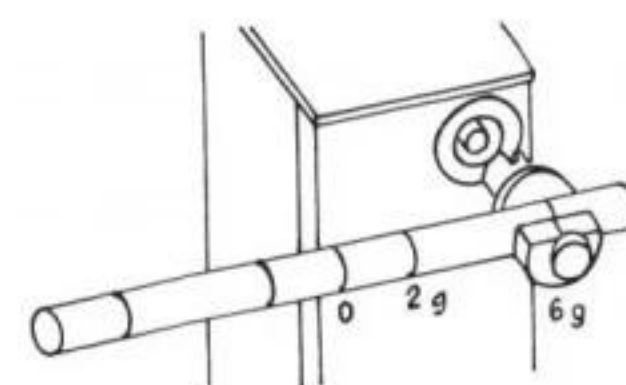

Fig. 14
**Verification:** the confirmation that the tonometer measures the force exercised by the counterbalance appropriately should be carried out periodically by the user. For this verification the check weight that is given as accessory must be used (Fig. 14). The periodicity of verifications will depend on the frequency of use of the instruments, and its realization is recommended if one observes some anomaly in its operation or in the suitable reading, if the apparatus has received some blow or it presents indications of damage or deterioration or if one suspects that it can have them.